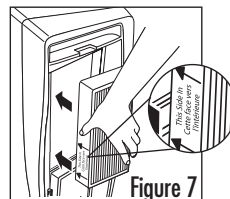

Figure 7
2. Place the filter back into the air purifier housing. Ensure that the metal tabs on the filter are facing towards the unit (see Figure 7).